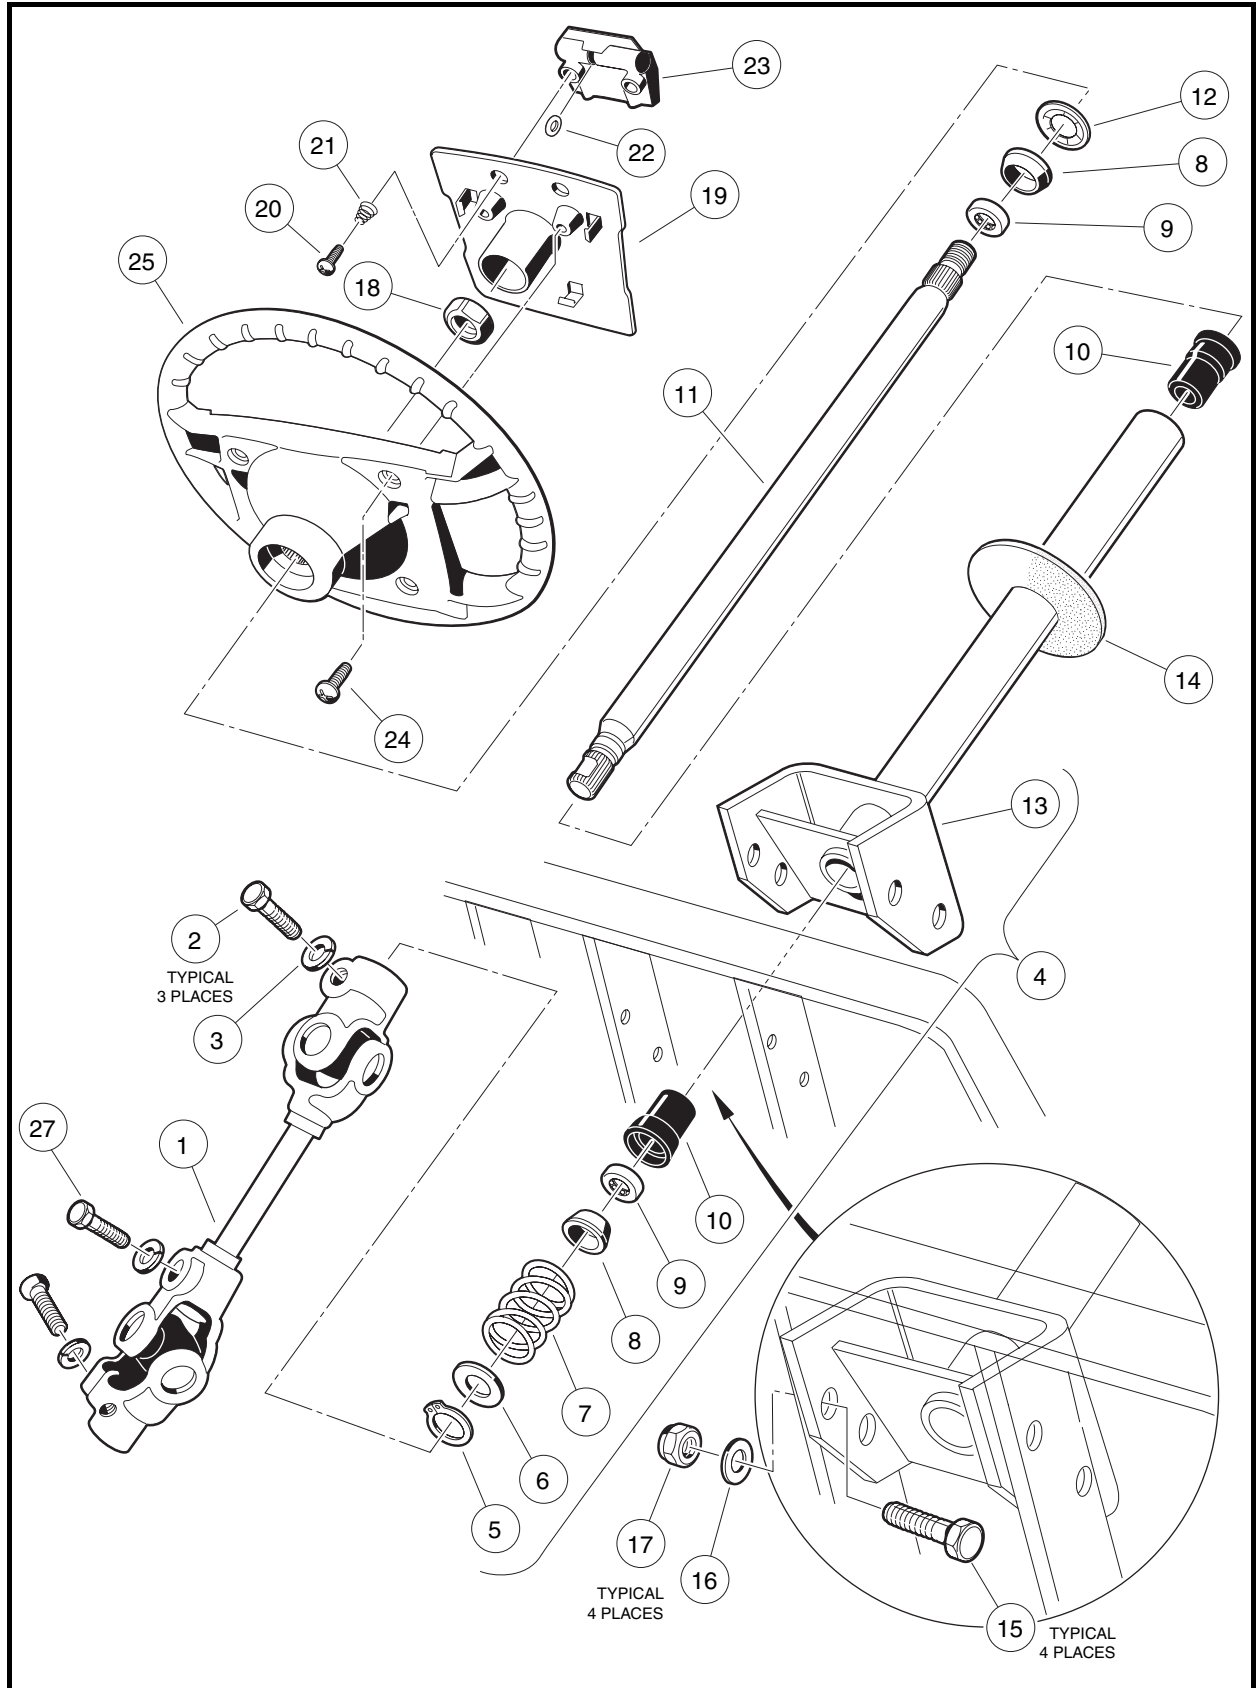
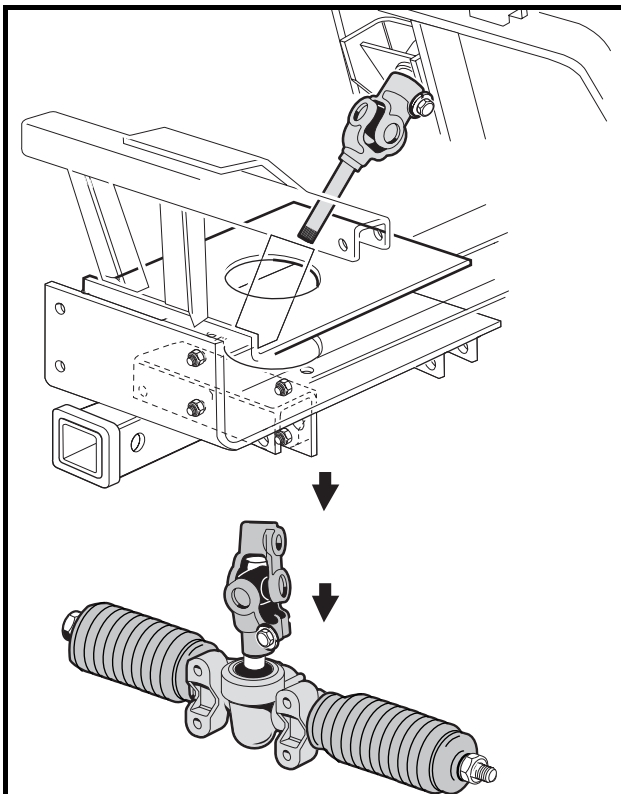

Figure 7-3 Steering Column
Figure 7-8 Remove Rack and Pinion
4. Remove the two mounting screws (24) and plate (19) (**Figure 7-3, Page 7-2**).
5. Match mark the steering wheel (25) and steering column shaft (11) for installment positioning.
6. Loosen the steering wheel nut (18) and back it off approximately 1/4-inch (6 mm). Do not remove the nut.
1. Install the steering wheel (25) on the splines of the steering shaft (11) (**Figure 7-3, Page 7-2**). Align the match marks placed on the wheel and steering column shaft in step 5, Steering Wheel Removal on page 7-1.
2. Install the steering wheel nut (18) and tighten to 13 ft-lb (17.6 N·m).
3. Install the steering wheel plate (19) and mounting screws (24) and tighten screws to 16 in-lb (1.8 N·m).
6. Remove the upper bolt (2) and lockwasher (3) from the steering universal joint (1) (**Figure 7-3, Page 7-2**).
7. Remove the nuts (17), bolts (15) and washers (16) from the steering column mount (13) (**Figure 7-3, Page 7-2**).
8. Disconnect the steering universal joint (1) from the steering column shaft and remove the steering column from the vehicle (**Figure 7-3, Page 7-2**).
1. While supporting steering column (13) on a workbench, remove snap ring (5) from shaft (**Figure 7-3, Page 7-2**).
2. Remove the washer (6), spring (7), and wedge (8) (**Figure 7-3, Page 7-2**).
3. Turn the steering column over and slide the shaft out of the tube to expose the retaining ring (12). Use pliers to twist the retaining ring (12) until it breaks off, then remove the wedge (8).
4. Remove the shaft (11) from the bottom of the tube (13).
5. Use steering shaft (11) to push bearing seat (10) out from the opposite end of the steering tube (13).
6. Insert a flat blade screwdriver between the bottom of the outer race of the bearing (9) and the bottom lip of the bearing seat (10) and remove the bearing (9).
4. Insert the shaft (11) from the bottom of the steering tube (13) (**Figure 7-3, Page 7-2**).
1. Install boot (14) (if previously removed) (**Figure 7-3, Page 7-2**).
3. Position the steering column assembly in the vehicle while inserting the steering column shaft into the upper steering universal joint (1). The flat portion of the steering shaft spline (11) must be aligned with the bolt hole in the steering universal joint (1) before sliding the spline into place (**Figure 7-3, Page 7-2**).
5. Hold the steering column in place and attach it to the frame using bolts (15), washers (16) and locknuts (17) (**Figure 7-3, Page 7-2**). Tighten the four bolts, in a crisscross pattern, to 23 ft-lb (31.2 N·m).
6. Tighten the bolt (2) on the upper steering universal joint (1) to 15 ft-lb (20 N·m).
7. Check the other bolts (27) on the lower steering universal joint assembly (1) to ensure that they are properly tightened to 15 ft-lb (20 N·m) (**Figure 7-3, Page 7-2**).
7. Remove the bolt (27) and lockwasher (**Figure 7-3, Page 7-2**) from the universal joint, then remove the rack and pinion assembly and universal joint from the vehicle (**Figure 7-8, Page 7-6**).